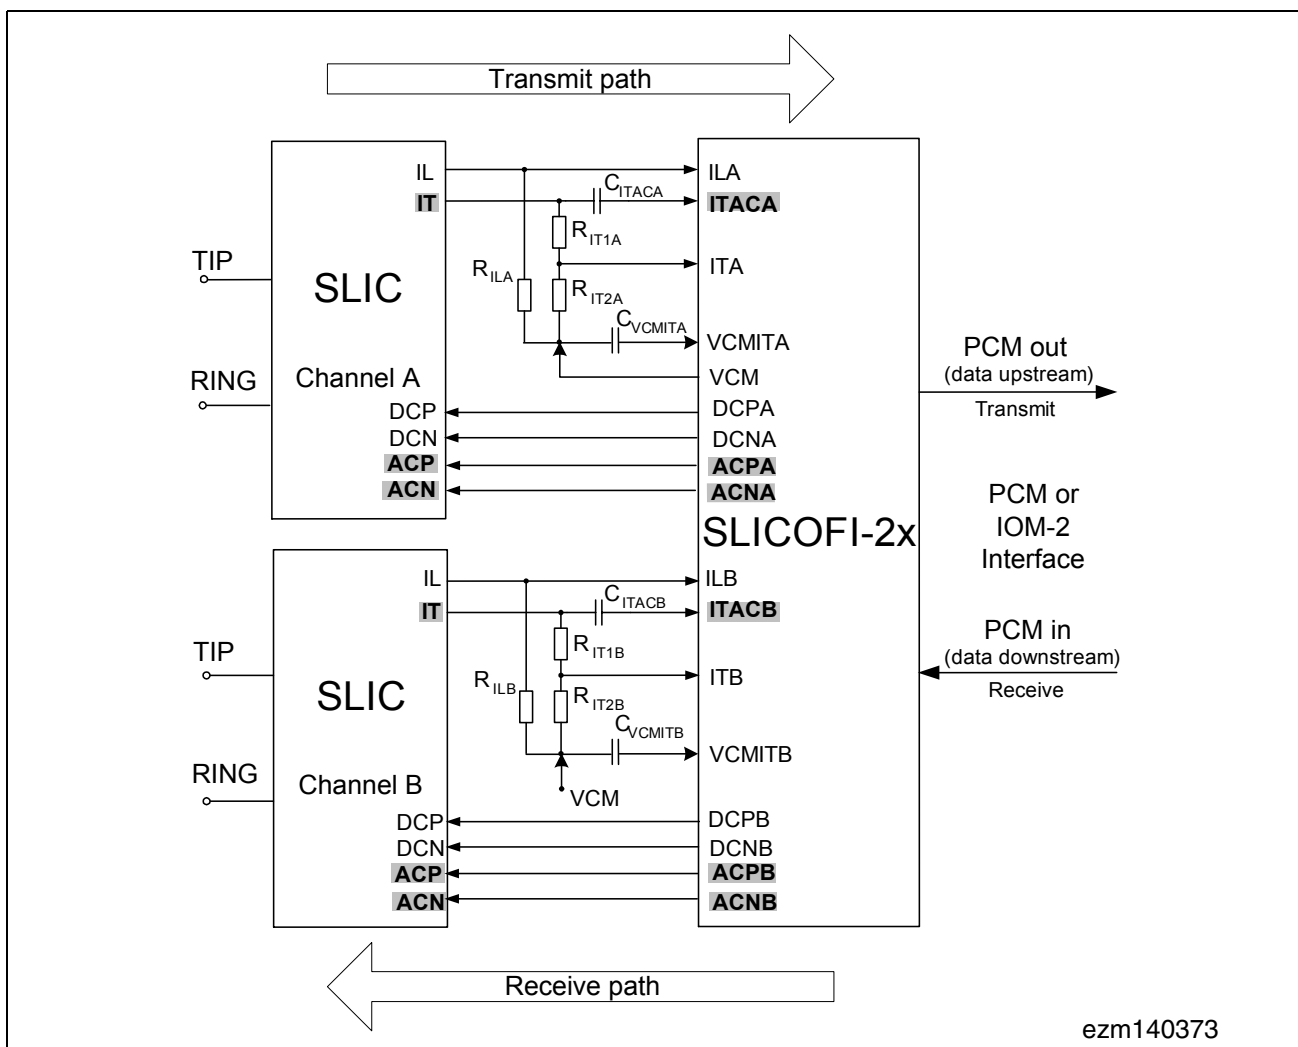

Figure 19 Signal Paths – AC Transmission
SLICOFI-2x uses either an IOM-2 or a PCM digital interface. In receive direction, *SLICOFI-2x* converts PCM data from the network and outputs a differential analog signal (ACP and ACN) to the SLIC that amplifies the signal and applies it to the subscriber line. In transmit direction, the transversal (IT) and longitudinal (IL) currents on the line are sensed by the SLIC and fed to the *SLICOFI-2x*. A capacitor separates the transversal line current into DC (IT) and AC (ITACA) components. Because ITACA is the sensed transversal (also called metallic) current on the line, it includes both the receive and transmit components. *SLICOFI-2x* separates the receive and transmit components digitally, via a transhybrid circuit. **Figure 19** shows the signal paths for AC transmission between the SLICs and *SLICOFI-2x*: